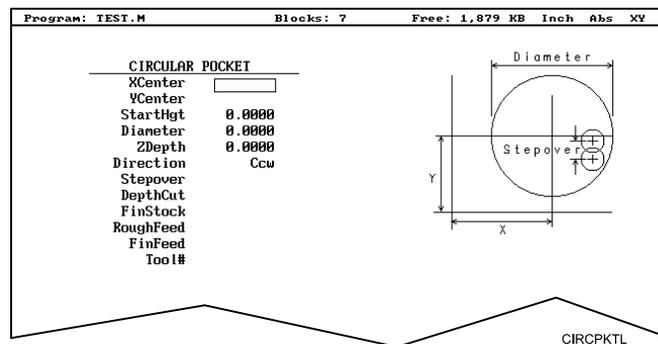

Figure 5-17, CIRCULAR POCKET Graphic Menu
2. Move the highlight to select **Circular**, and press **ENTER** to display the **CIRCULAR POCKET** Graphic Menu. Refer to **Figure 5-17**.